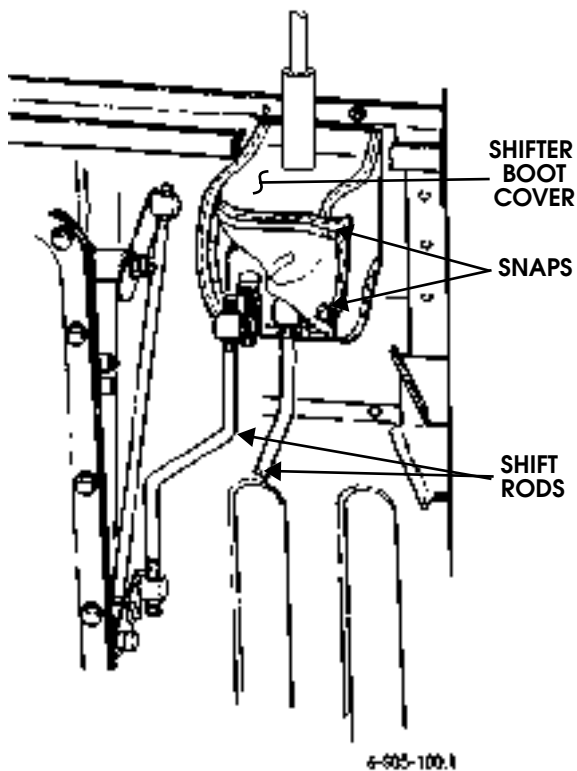

Figure 5-59: Shift Rod Removal
2. Unfasten shifter boot cover snaps and pull apart velcro strips to open cover (Figure 5-59).